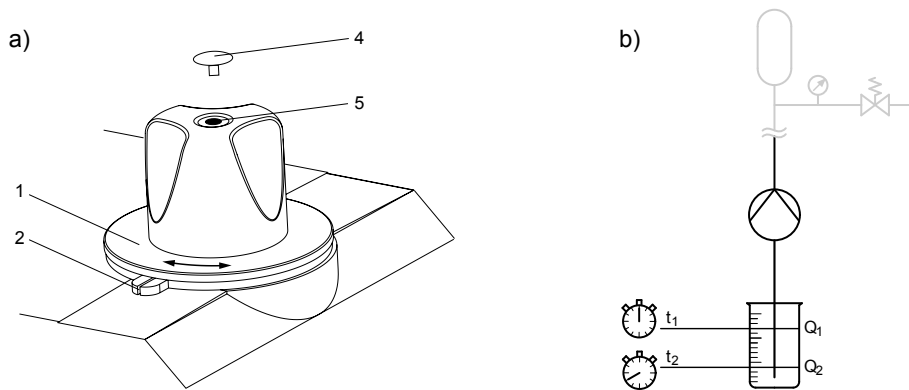

Fig. 22: a) Adjust indicating dial, b) Schematic assembly for calibration
4. ➤ Remove the cover (4) from the stroke adjustment dial and slacken off the screw (3) beneath slightly.
5. ➤ Guide the suction line into a measuring beaker - see Fig. 22.
- 13.** ▶ Turn the indicating dial (1) only until the 100% marking is precisely above the indicating slot (2).
- 14.** ▶ Carefully tighten the screw (3) in the stroke adjustment dial and replace the cap (4).